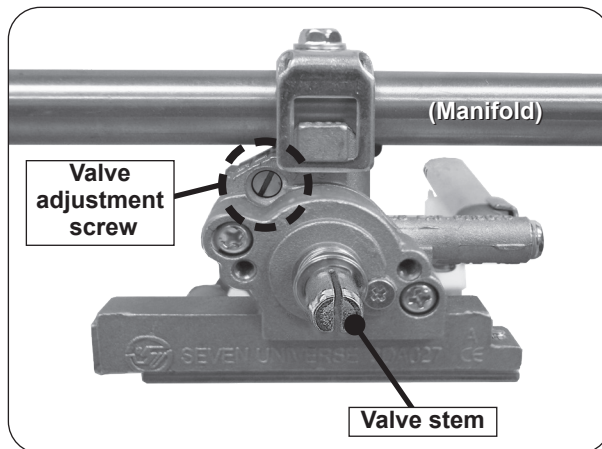

Fig. 38-1 Valve adjustment screw location
5. Locate the FLATHEAD adjustment screw found above the valve stem and below the manifold (see Fig. 38-1).